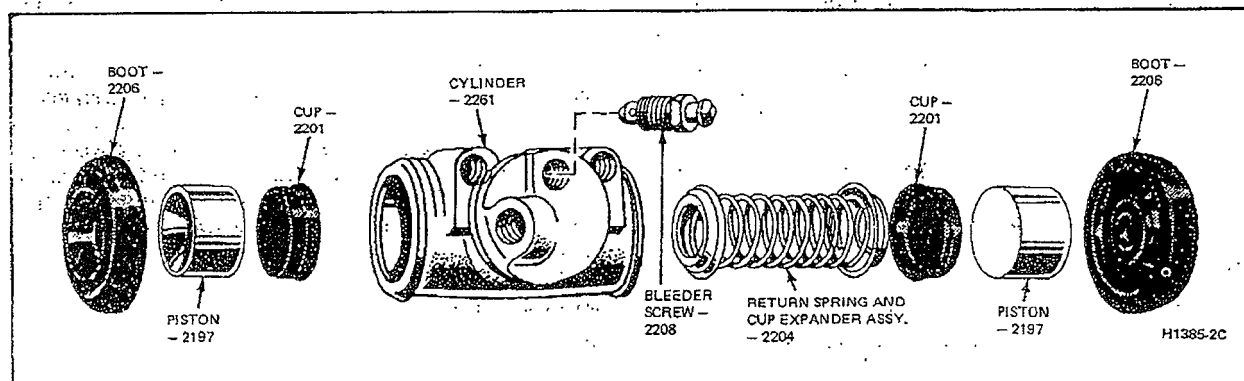

FIG. 7 Brake Wheel Cylinder—Typical
cups, and return spring and expander assembly from the cylinder bore (Fig. 7).
3. Insert the return spring and expander assembly, cups, and pistons into their respective positions in the cylinder bore (Fig. 7). Place a boot over each end of the cylinder.